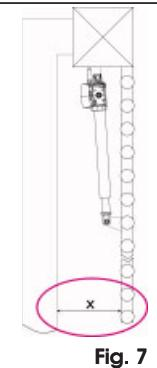

Fig. 7
**⚠ When the operator has been installed, check if dimension "X" in Fig. 7 is at the minimum of 500 mm. If dimension "X" is less than 500 mm, run an impact test on the point indicated in Fig.7, as described in standard UNI EN 12445, and make sure that the measured values conform to the specifications of standard UNI EN 12453.**
**If the thrust values are not within the values specified in standard UNI EN 12453, the zone indicated in figure 7 MUST BE protected with a protective device conforming to the UNI EN 12978 standard.**